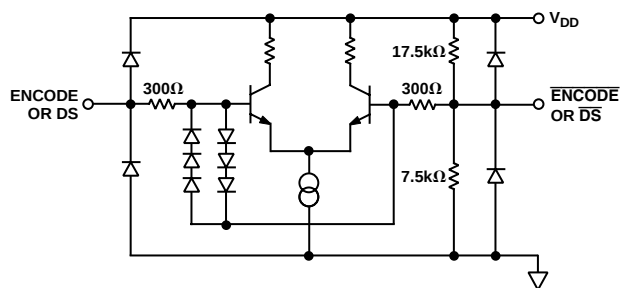

Figure 5. Equivalent ENCODE and Data Select Input Circuit
¹Gain error and gain temperature coefficient are based on the ADC only (with a fixed +2.5 V external reference).²3 dB bandwidth with full-power input signal.³t_V and t_{PD} are measured from the threshold crossing of the ENCODE input to valid TTL levels of the digital outputs. The output ac load during test is 5 pF (Refer to equivalent circuits Figures 5 and 6).⁴I_{IH} and I_{IL} are valid for differential input voltages of less than 1.5 V. At higher differential voltages, the input current will increase to a maximum of 1.5 mA.⁵Power dissipation is measured under the following conditions: analog input is -1 dBFS at 19.7 MHz.⁶Typical thermal impedance for the ST-44 (LQFP) 44-lead package (in still air): $\theta_{JC} = 20^{\circ}\text{C/W}$, $\theta_{CA} = 35^{\circ}\text{C/W}$, $\theta_{JA} = 55^{\circ}\text{C/W}$.⁷A change in input offset voltage with respect to a change in V_{DD}.⁸SNR/harmonics based on an analog input voltage of -1.0 dBFS referenced to a 1.024 V full-scale input range.
ENCODE and Data Select (DS) can be driven differentially or single-ended. For single-ended operation, the complement inputs ($\overline{\text{ENCODE}}$, $\overline{\text{DS}}$) are internally biased to $V_{\text{DD}}/3$ (~1.5 V) by a high impedance on-chip resistor divider (Figure 5), but they may be externally driven to establish an alternate threshold if desired. A 0.1 μF decoupling capacitor to ground is sufficient to maintain a threshold appropriate for TTL or CMOS logic.
Note the 6-diode clock input protection circuitry in Figure 5. This limits the differential input voltage to $\sim \pm 2.1$ V. When the diodes turn on, current is limited by the $300\ \Omega$ series resistor. Exceeding 2.1 V across the differential inputs will have no impact on the performance of the converter, but be aware of the clock signal distortion that may be produced by the nonlinear impedance at the converter.